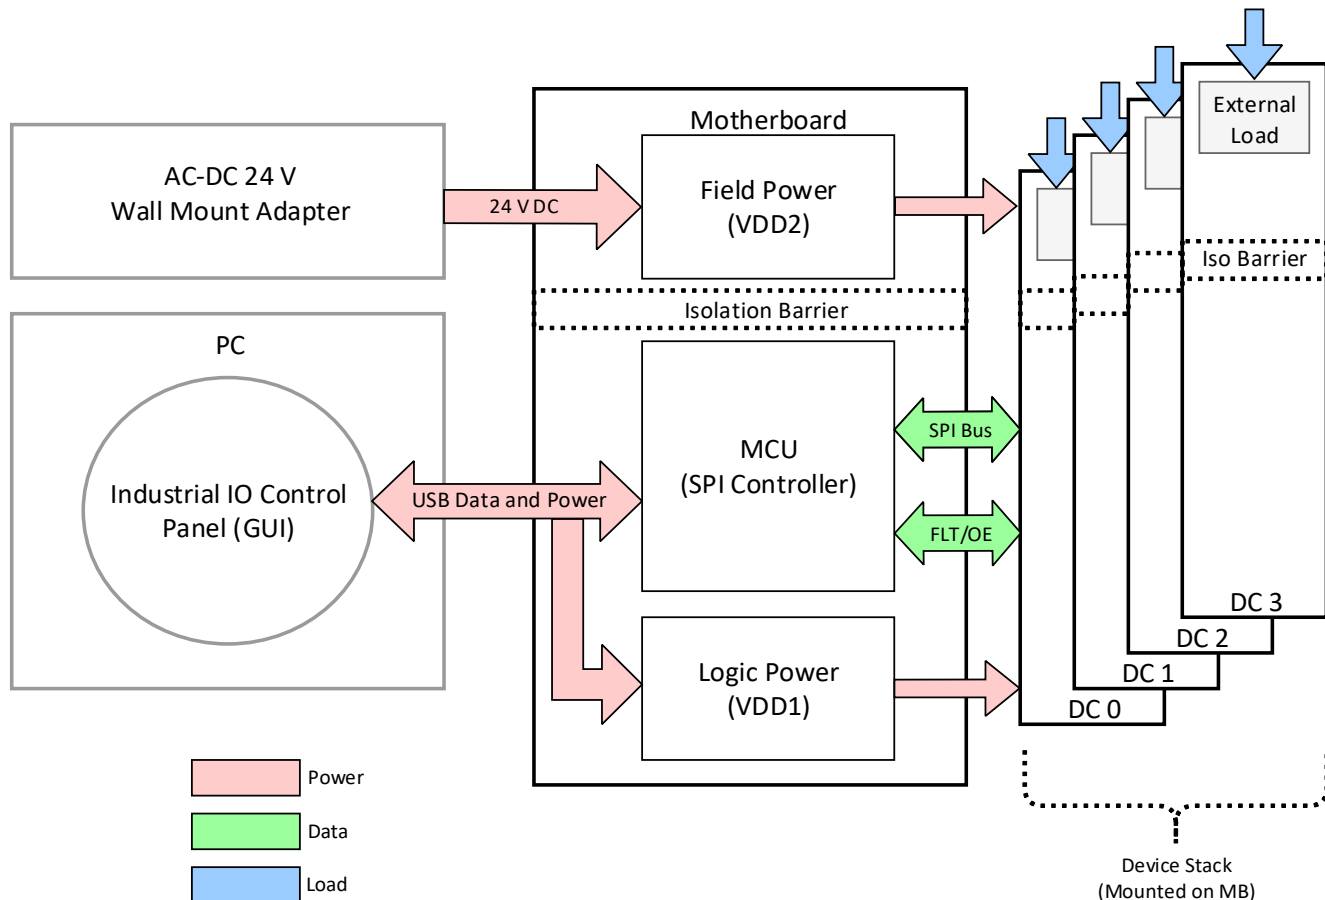

Figure 2. System Block Diagram
The Si83xx SPI motherboard (MB) and daughter card (DC) system can be broken down into three main parts: the daughter cards, the motherboard, and the software GUI. The GUI receives user input, interfaces with the device stack (comprising one to four daughter cards), and displays register data and device statuses for the user. Figure 2 shows the high-level system block diagram.